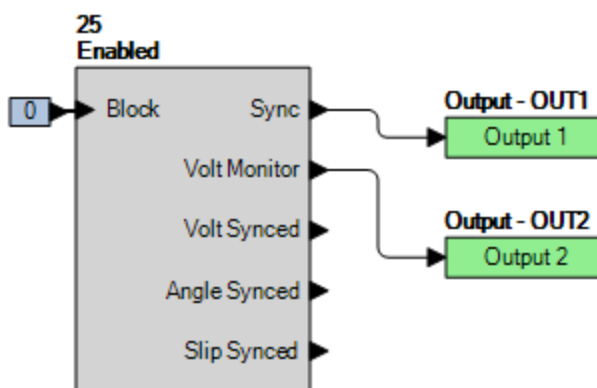

Figure 56-1. BESTlogic*Plus* Settings (25)
Step 2: Use BESTCOMS*Plus* to configure the BESTlogic*Plus* Programmable Logic shown in Figure 56-1.